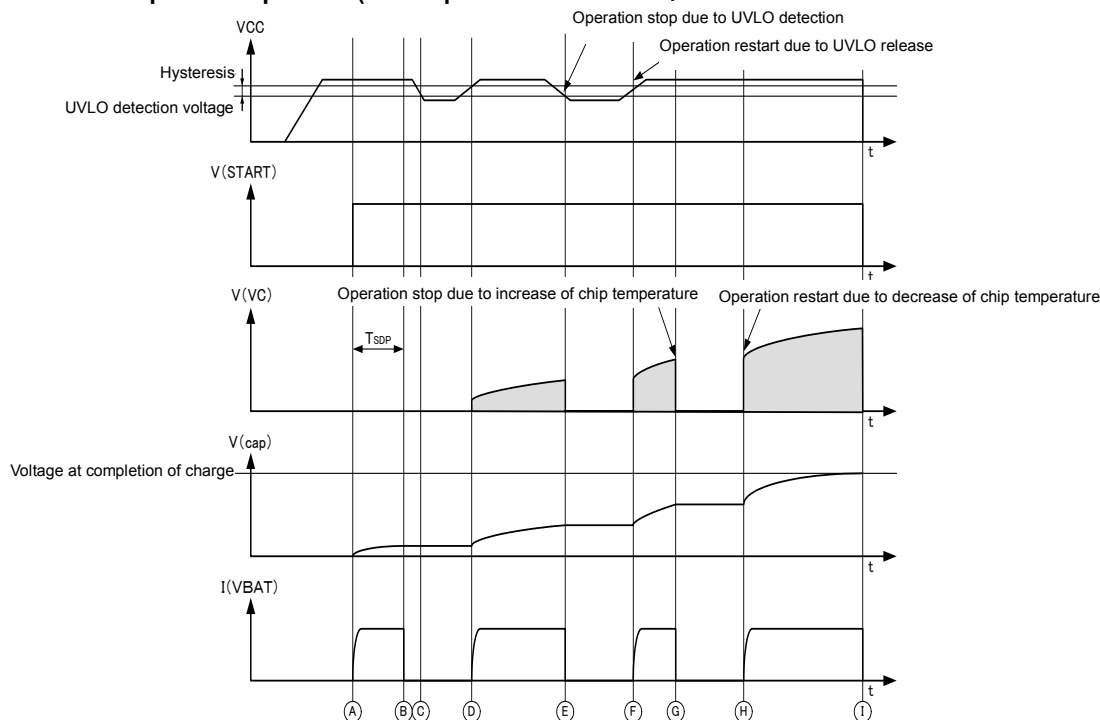

Fig 35 Timing Chart 3: Under Protective Circuit Operation
- ③ The protective circuit is activated (See Fig 35 and the Protective Circuit.).
If the VCC voltage is reduced to the UVLO detection voltage specified in the electrical characteristics or less, the UVLO protective circuit is activated and the charging operation temporarily stops. (See Time ㉞ and ㉟ in Fig 35.) After that, when the VCC voltage becomes the UVLO release voltage or more, the charging operation automatically restarts. (See Time ㊱ and ㊲ in Fig 35.)
It protects the IC against thermal runaway due to excessive temperature rise ($T_j > 175^\circ\text{C}$ [TYP]). After detection, the charging operation temporarily stops (See time ㉞ in Fig 35.), and when the chip temperature decreases, ($T_j < 150^\circ\text{C}$ [TYP]), it automatically restarts. (See Time ㊱ in Fig 35.)
If the VC pin becomes the GND level due to any failure and the PowerTr repeats switching 2^{16} (=65536) times which is the SDP count number (TSDP) at the maximum OFF time, it is judged as an error and the charging operation is forced to be stopped. (See Time ㉞ in Fig 35.) If the START pin is changed from "L" to "H" and the UVLO detection is released, it restarts.